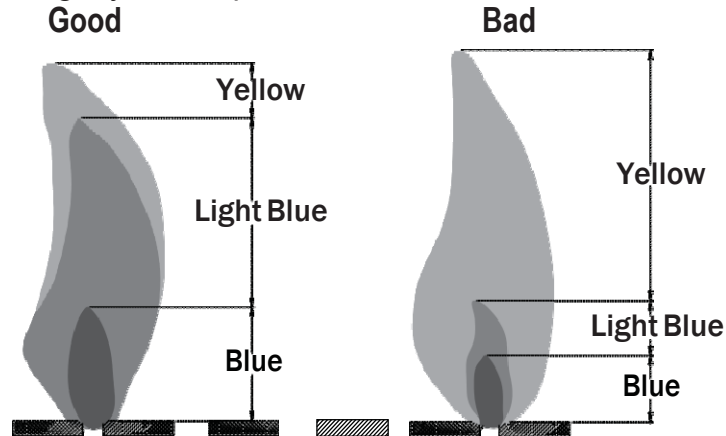

Figure 10
**Observe Flame Height When Lit:** The burner will display blue and yellow flames. These flames should be a blue / yellow color between 1~2 in. height, (see Figure 10). These flames should not be yellow or produce thick smoke. This would indicate an obstruction of airflow through the burners. The flames should be blue with straight yellow tops.